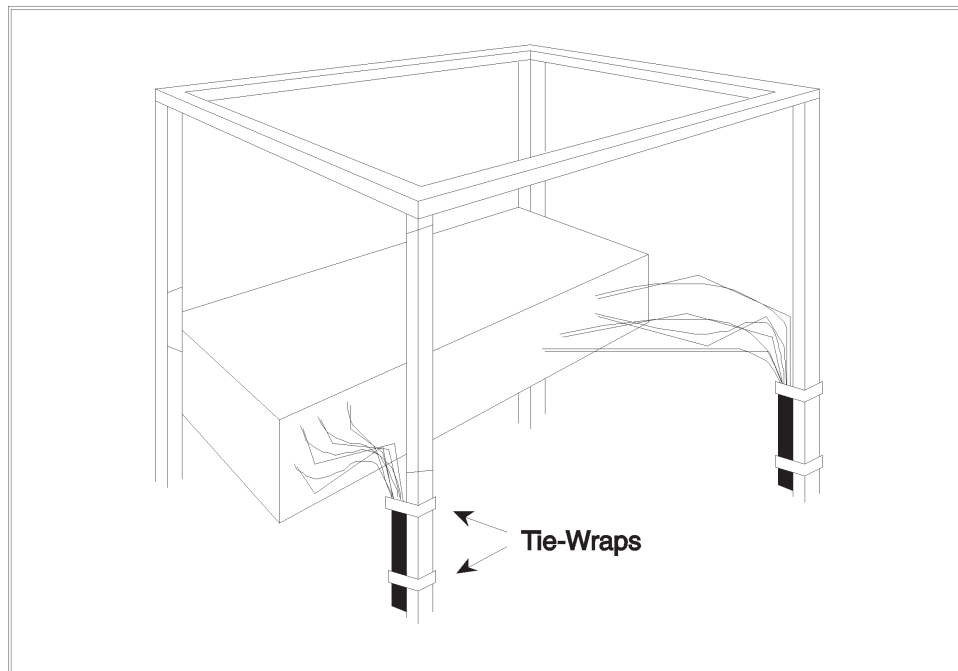

Figure 2-2 Cables Attached to Supports
2. Provide proper support for each cable during the cabling process. The use of tie-wraps is recommended, as shown below in Figure 2-2.